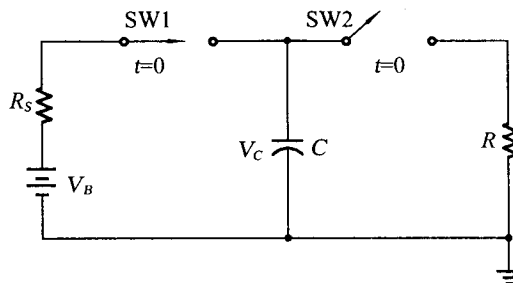

Figure1.2 First order system
**Time Constant in RC Circuits** Before detailed analysis of capacitor charging and discharging processes in first-order systems, it will be useful to consider the time constant in circuits containing capacitors. In the circuit shown in Figure 1.2 there are two switches and one switch is “ON” at a time.